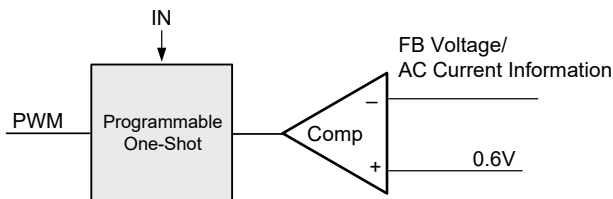

Figure 3. Simplified Control Schematic of AOZ2261NQi-11
The simplified control schematic is shown in Figure 3. The high-side switch on-time is determined solely by a one-shot whose pulse width can be programmed by one external resistor and is inversely proportional to input voltage (IN). The one-shot is triggered when the internal 0.6V is higher than the combined information of FB voltage and the AC current information of inductor, which is processed and obtained through the sensed lower-side MOSFET current once it turns-on. The added AC current information can help the stability of constant-on time control even with pure ceramic output capacitors, which have very low ESR. The AC current information has no DC offset, which does not cause offset with output load change, which is fundamentally different from other V2 constant-on time control schemes.